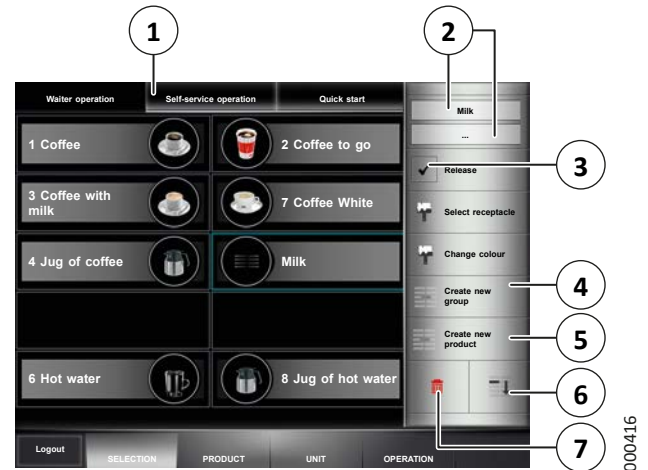

Fig. 26: Menu option "Selection"
4. Under “Language selection” (4), select the language that should be used for the name.
- Select a default name: Under “Category models” (2), select a category and then select a name from the list below (1).
- Enter your own name: Press the corresponding line (3) and enter a name using the screen keyboard (see chapter 7.2 on page 21).
7. Press the “Release” button (3) (see Fig. 26) to activate the created group for dispensing.
3. Press the “Create new product” button (5) (see Fig. 26).
5. Press the “Release” button (3) (see Fig. 26) to activate the created product for dispensing.
2. Press the “Down” button (6) (see Fig. 26) to move the product group or product button downward.
2. Press the delete symbol (7) (see Fig. 26).